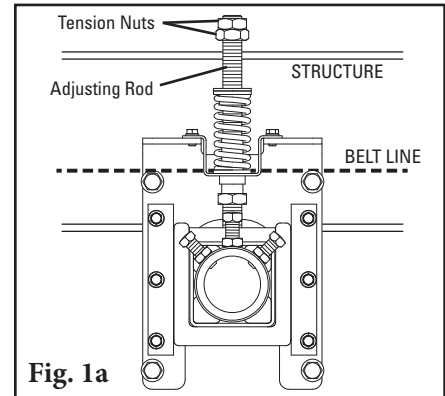
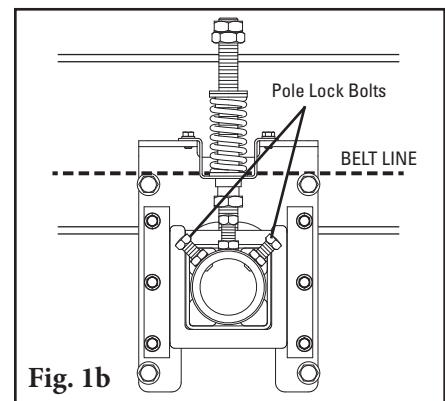
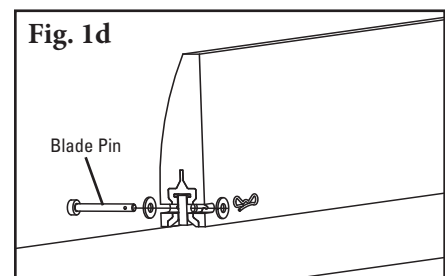

Fig. 1a
Fig. 1b
Fig. 1d
1. **Install the air/water tensioner mounting bases.** Clamp the mounting base into position so the top flange is even with the belt (Fig. 1a). Bolt the mounting base in place. Locate and install the mounting base on the opposite side.
NOTE: For chute mounting, a belt location line must be drawn on the chute wall so the mounting base can be aligned with the belt (Fig. 1b). Cut access holes as needed.
- a. Loosen the tension nuts on both tensioners to the top of the adjusting rod (Fig. 1a). If using air tensioner, release air pressure. If accessible, remove blade pins from the blade and remove the worn blade (Fig. 1d).
- b. Loosen the pole lock bolts on both ends (Fig. 1b) and allow the blade to rotate downward. If accessible, remove the blade pins from the blade and remove the blade (Fig. 1d).
- d. Remove the blade pins from the blade and remove blade (Fig. 1d).